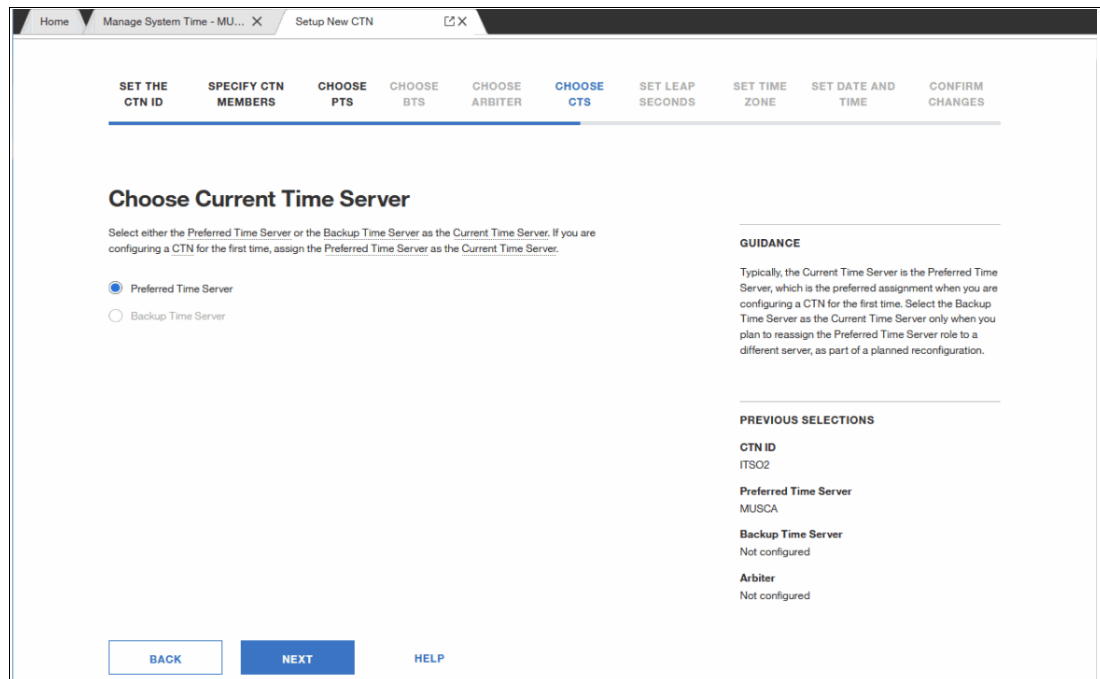

Figure 8-37 Choose Current Time Server window
- The Choose Current Time Server window opens. We select **MUSCA** for CTS. Click **NEXT** to continue (see Figure 8-37).